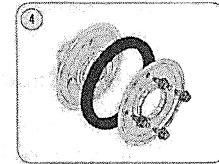

Figure 27
- Remove the four screws which secure the friction wheel's side plates together. See Figure 27.